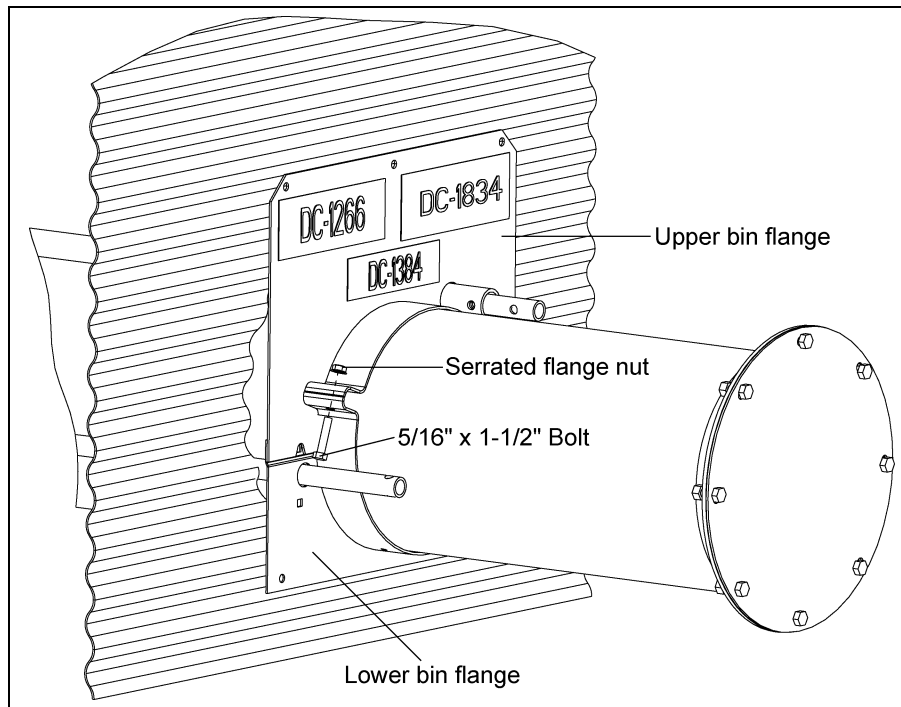

Figure 4K
1. Attach the upper and lower bin flanges loosely to the auger tube using two (2) 5/16" x 1-1/2" bolts and serrated flange nuts. (See Figure 4K.)